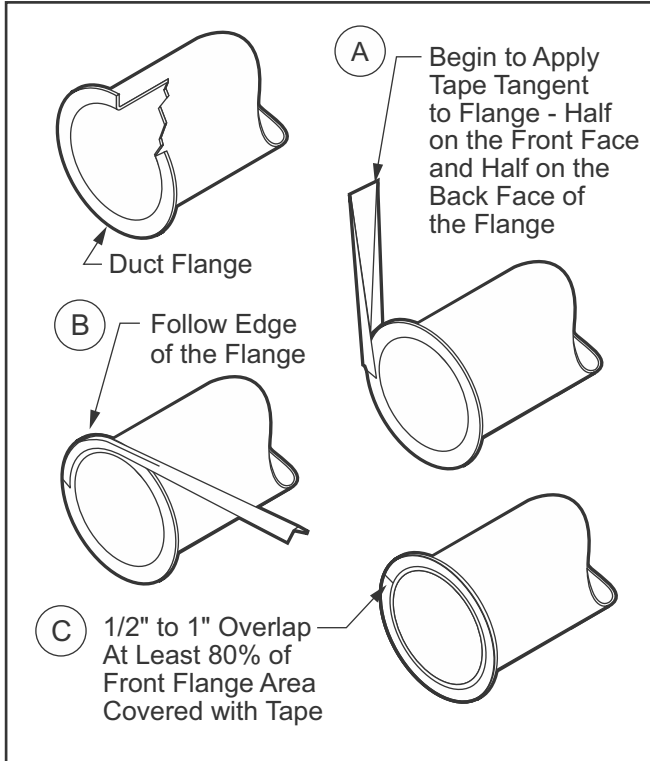

Fig. 8: Apply gasket for 4" to 30" duct
3. Install Gasket 4"-30": If the duct or fitting joint already has gasket tape applied, skip this step. Otherwise, the PTFE gasket is now applied which comes as an adhesive backed tape. Slide the floating ring a comfortable distance away from the duct flange. Peel back the adhesive backing paper. Start (A) by firmly pressing the adhesive side of the tape to the flange edge first at an angle tangent to the duct opening. Holding the end of the tape firmly in place, continue applying the tape (B) by pulling and tacking it along the edge of the duct flange. There will be enough width to the tape to be able to press the tape about equal amount onto the front and back sides of the flange. To complete this process (C), overlap the tape ends 1/2" to 1". Then firmly press the tape onto the flange front and back to guarantee complete adhesion. Ensure about 80% of the front or outward flange surface area is covered with sealant tape for best mating joint. Slide the floating ring back against the flange for duct installation. (Fig. 8)